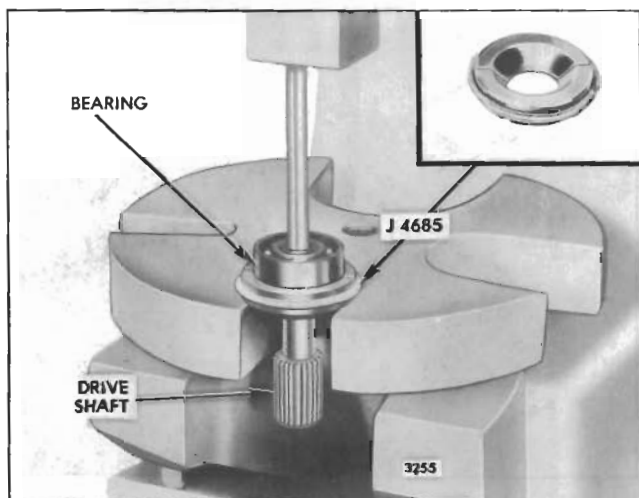

Fig. 13 - Removing Bearing from Drive Gear
- b. Support the drive gear assembly and remover on the bed of an arbor press (Fig. 13). Place a brass rod on the end of the drive shaft, then press the drive gear and shaft assembly from the bearing. Catch the drive gear and shaft by hand when pressed from the bearing.